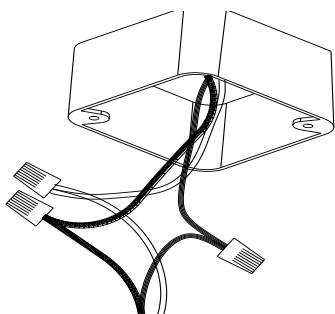

Fig. 3
4. Connect the black and the white wires of the fixture with two wires of the same colors from the junction box with the wirecaps. Connect the grounding wire of the fixture with the one from the junction box with the wirecap (figure 3).